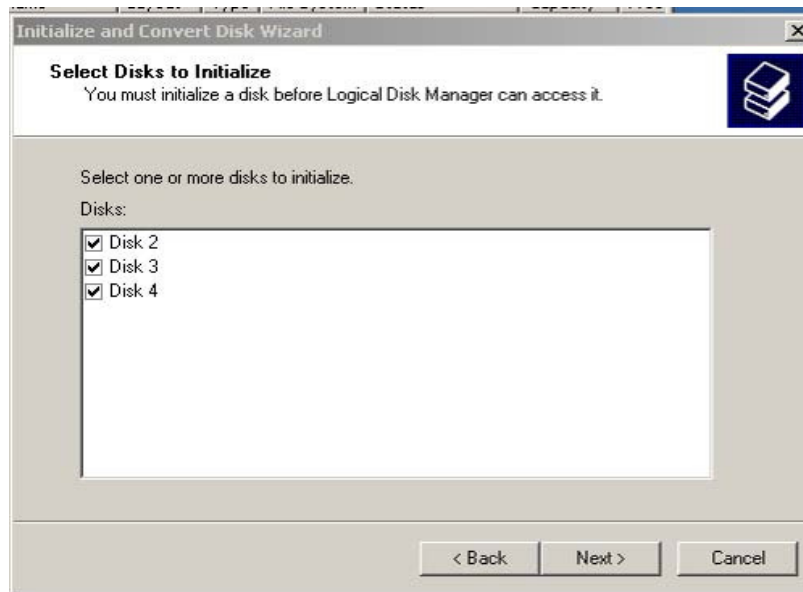

Figure 14
6. Make sure all the disks are selected and click **Next**. (See Figure 14)